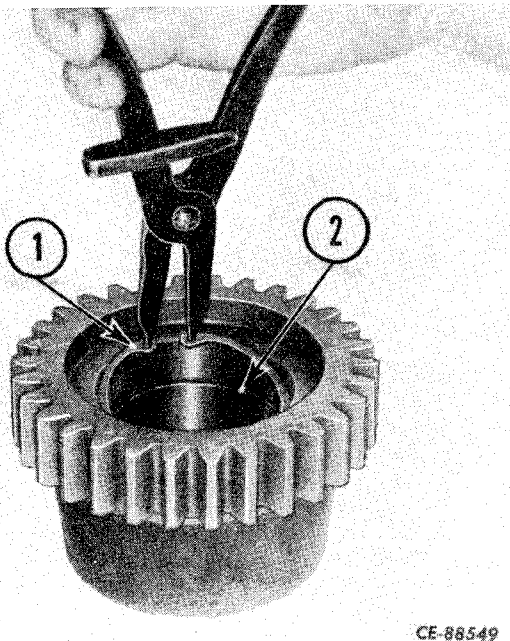

Figure 4-59
Install the bearing retaining rings (1, Fig. 4-59) in the grooves in the reverse idler gear (2).